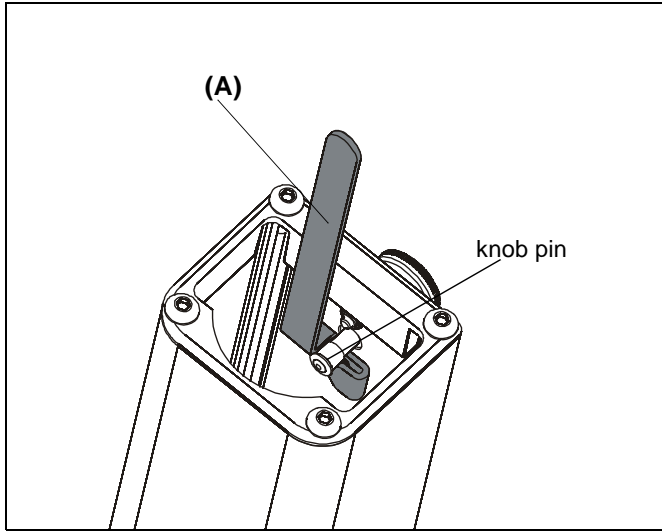

Figure 4
1. Use cart knob removal wrench (A) to hold hex nuts in place inside column. (See Figure 4)